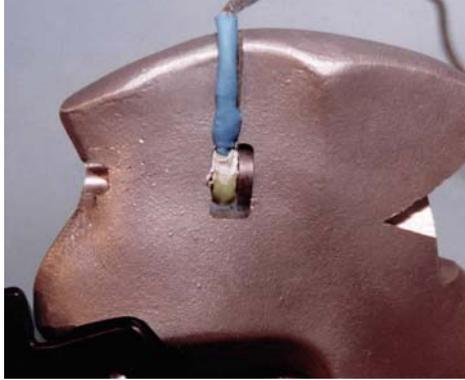

Figure 11.21- Iliac load cell and washer
- Position a Uniaxial Compression Load Cell (T1INM410) in the machined groove on the left iliac wing of the pelvis. Slide the Iliac Load Cell Washer (T1PLM017) behind the load cell and align the through holes in the washer and load cell. The placement of the washer and load cell is shown in **Figure 11.21**. The wires for the load cells are strain relieved with a 1/8" cable clamp and a #6-32 x 1/2" BHSCS {5/64}, and joined to the bundle of wires running down the back of the spine.